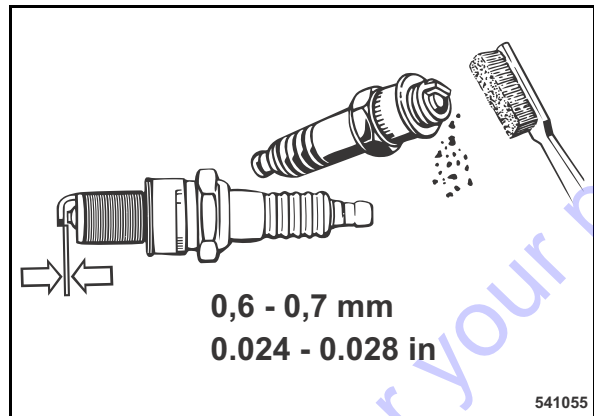

Fig. 39
- Check the spark plug (Fig. 39) visually and clean it if necessary.